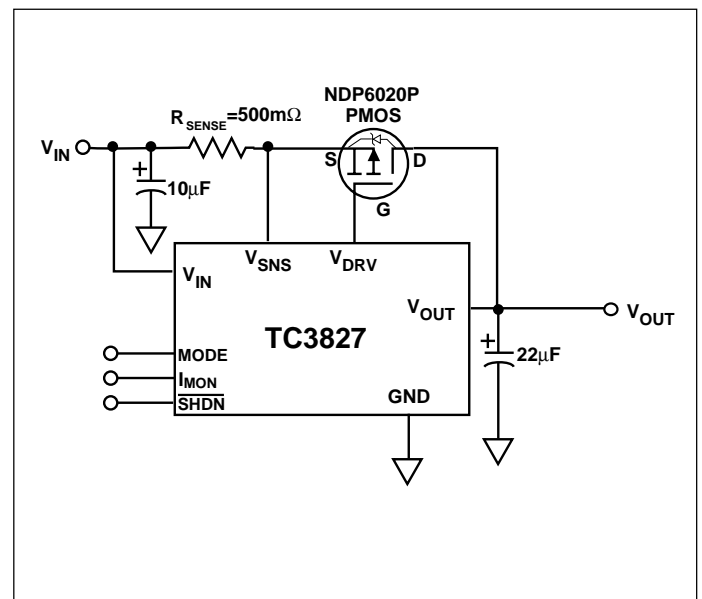

Figure 3. TC3827 Test Circuit
**ELECTRICAL CHARACTERISTICS:**  $V_{IN} = [V_{REG} + 1V]$ ,  $T_A = -20^\circ\text{C}$  to  $+85^\circ\text{C}$ , unless otherwise noted. Typical values at  $T_A = +25^\circ\text{C}$ ,  $R_{SENSE} = 500\text{m}\Omega$ , Test Circuit Figure 3.